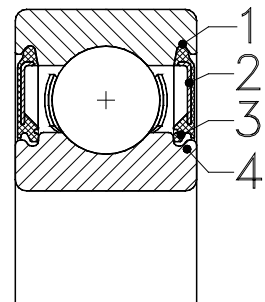

Fig. 4.2
Deep groove ball bearing seals (fig.4.2) usually consist of a flexible material that forms a sealing closure (3). To stiffen the seal, steel washers (2) have been integrated into the rubber compound.